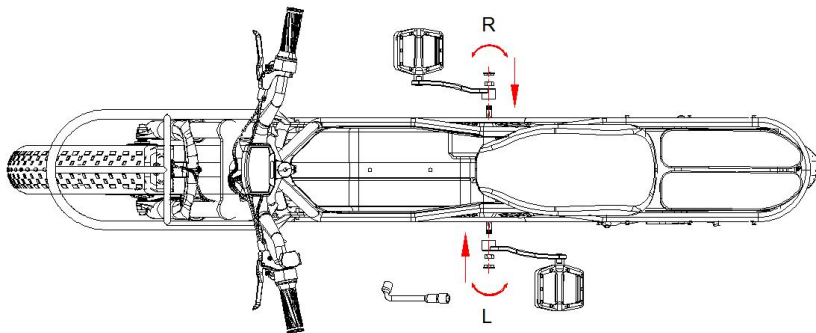

Figure 2-1-10
2.9 Install the left and right cranks into the central axis of the frame. 1. Distinguish the left and right cranks first. 2. Install the central axis. 3. Use a No. 14 socket wrench to tighten the nut. 4. Install the rubber plug. (Figure 2-1-10) .